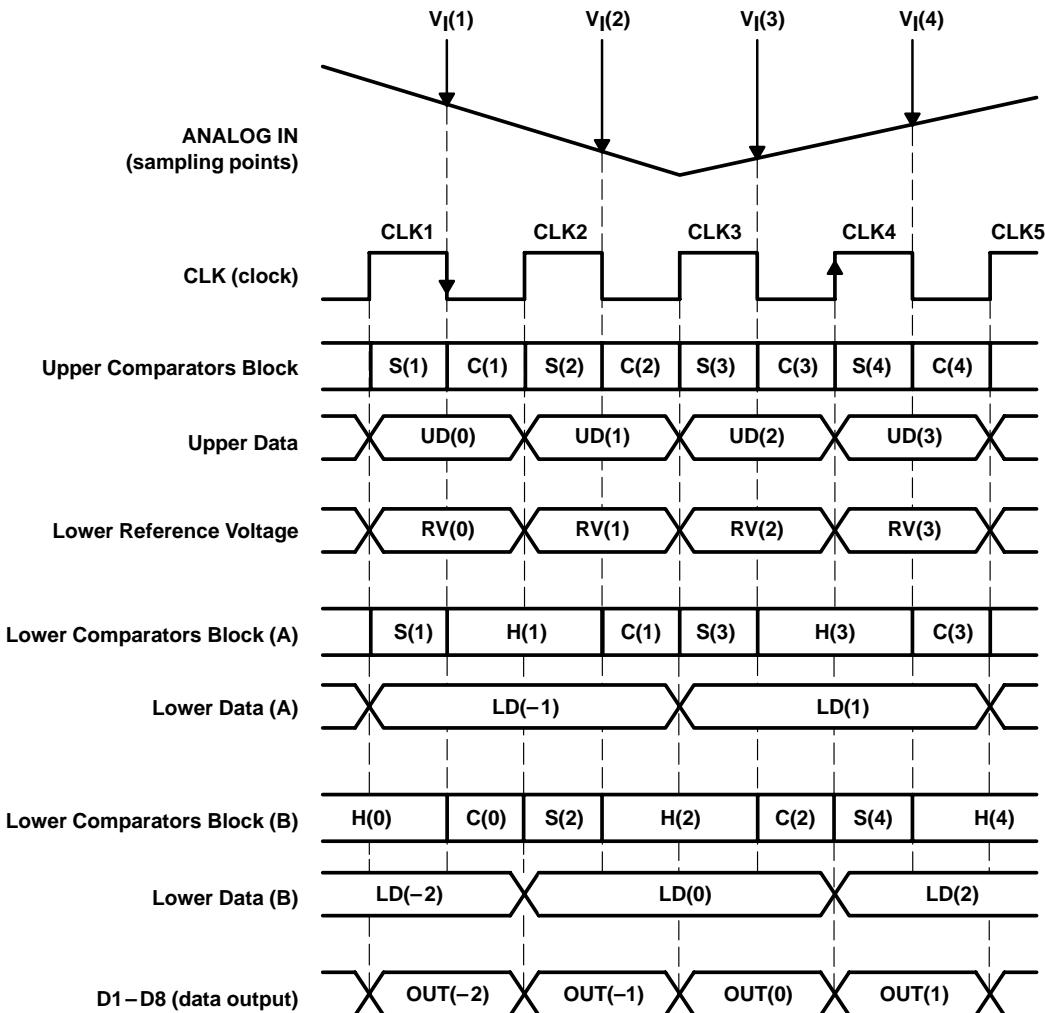

Figure 2. Internal Functional Timing Diagram
As shown in Figure 2, input voltage $V_I(1)$ is sampled with the falling edge of CLK1 to the upper comparators block and the lower comparators block(A), S(1). The upper comparators block finalizes the upper data UD(1) with the rising edge of CLK2, and simultaneously, the lower reference voltage generates the voltage $RV(1)$ corresponding to the upper data. The lower comparators block (A) finalizes the lower data LD(1) with the rising edge of CLK3. UD(1) and LD(1) are combined and output as OUT(1) with the rising edge of CLK4. As shown in Figure 2, the output data is delayed 2.5 clocks from the analog input voltage sampling point.